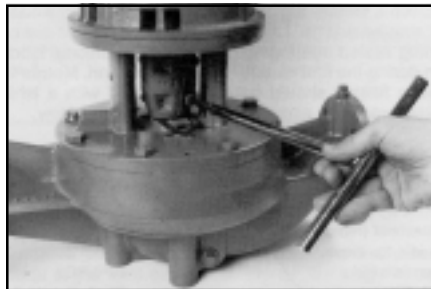

Figure 7
- IT IS EXTREMELY IMPORTANT TO TIGHTEN THE COUPLING SCREWS CORRECTLY. The four allen head fasteners should be tightened as follows. Tighten, but not completely, the bottom fasteners on one side of the coupling. Then tighten, but not completely, the top and bottom fasteners on the other side of the of the coupling so that the gaps between the coupling halves are equal. Repeat this procedure, tightening each side of the coupling successively until the fasteners are torqued to the values listed in Table C. Check to ensure the gaps between the coupling halves are equal. Loosen and adjust if necessary. See Figure 7.